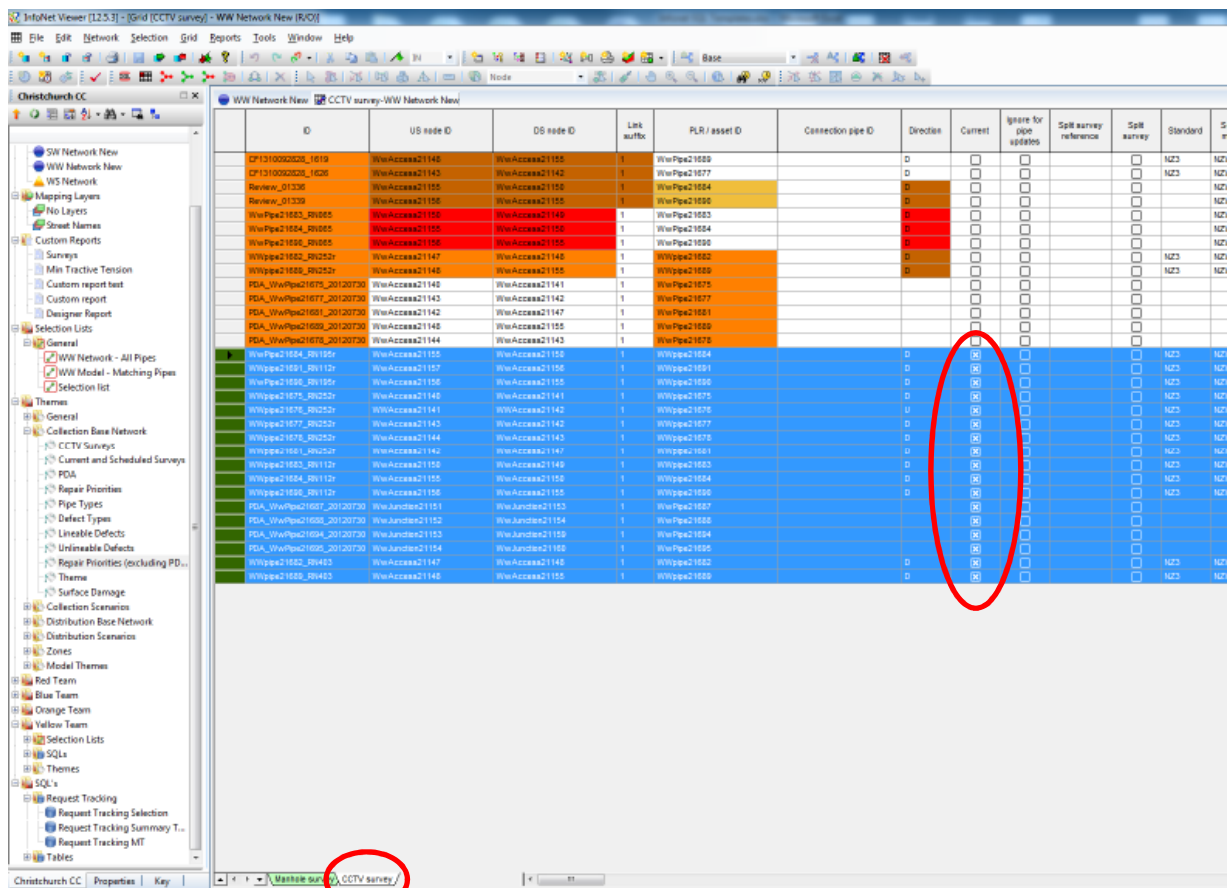

Figure 9 - Infonet Screenshot 4
10. Select the 'CCTV survey' tab (at the bottom of the page). See Figure 9.
11. If only current logsheets are required, sort the 'current' column by ascending and reselect only current surveys. See Figure 9.